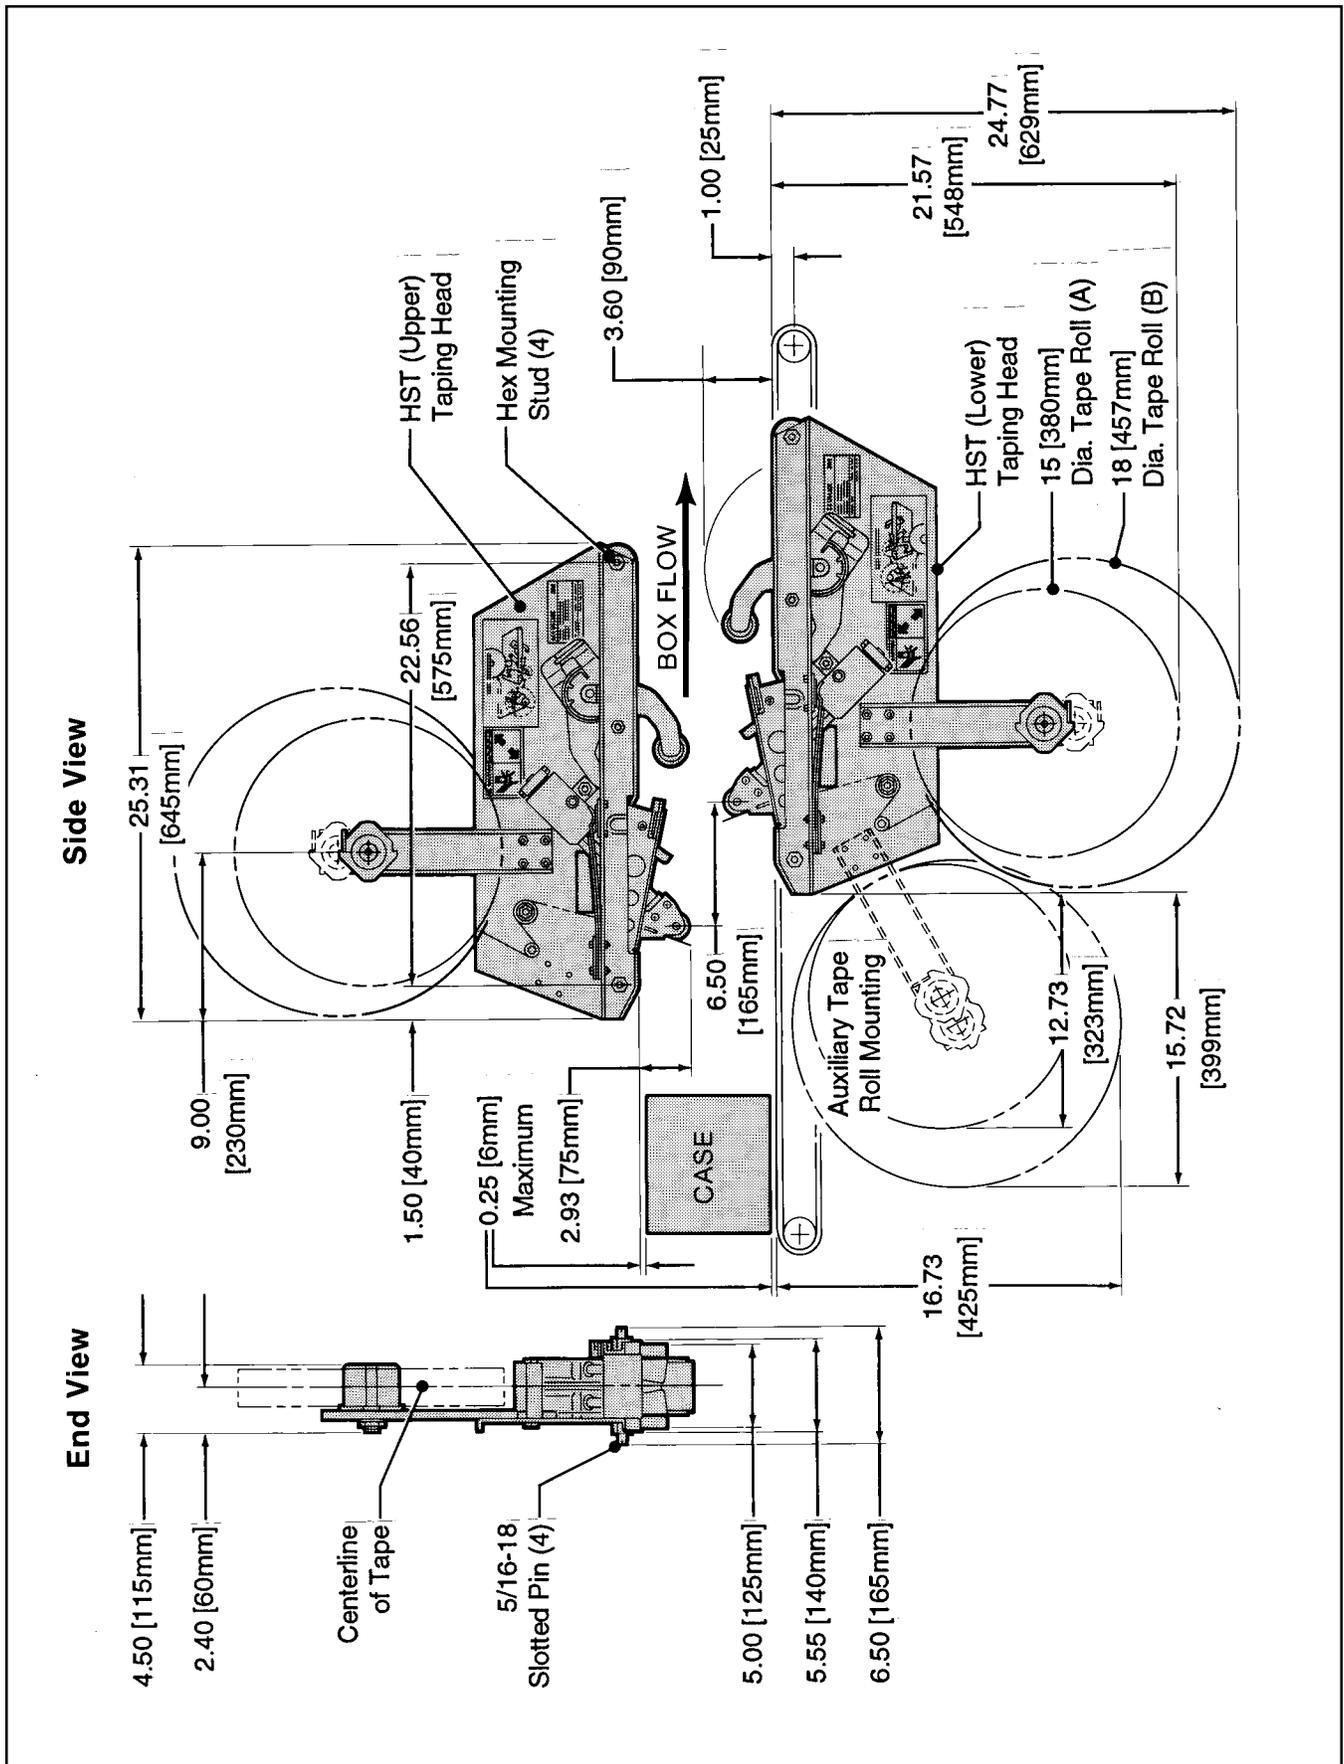

Figure 2-1 – Taping Head Assemblies – Typical Mounting Dimensions
Position A (Figure 2-1) – 15 inches [380 mm] maximum on a 3 inch [76.2 mm] diameter core.
Position B (Figure 2-1) – 18 inches [460 mm] maximum on a 3 inch [76.2 mm] diameter core.
The taping heads can be used to replace existing or custom made machinery. It can be mounted for top taping or bottom taping. Refer to box size specifications on page 5 and Figure 2-1 on page 6, for the following points in making such installations:
3. Figure 2-1 illustrates the typical mounting relationship for opposing taping head assemblies to allow taping of case heights down to 5.4 inches [135 mm]. **To tape case heights down to 4 inches [100 mm], the taping head assemblies must be completely staggered so only one tape seal is being applied at one time.**
4. Four (4) mounting studs are provided on the taping head side plates but special installations may require alternate means for mounting. Alternate mounting studs are provided for use with optional HST mounting frame P/N 78-8062-4234-9. See parts drawing, page 26.
Refer to Figure 2-1 for mounting dimensions.